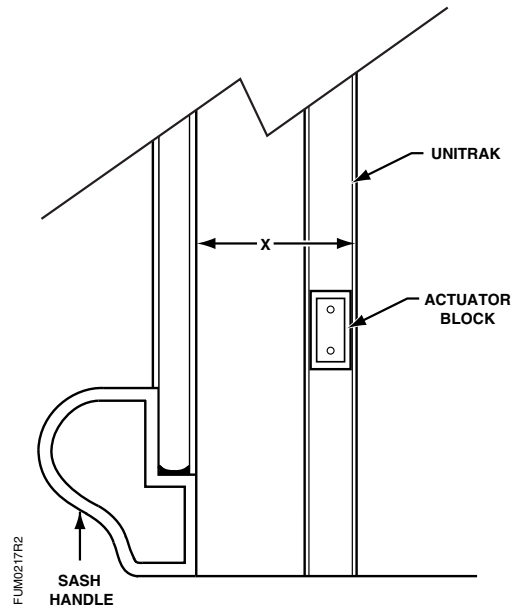

Figure 10. Measuring Between Sash and UniTrak Sensor.
2. Measure the distance from the edge of the sash frame to the far edge of the actuator block = X (Figure 10).